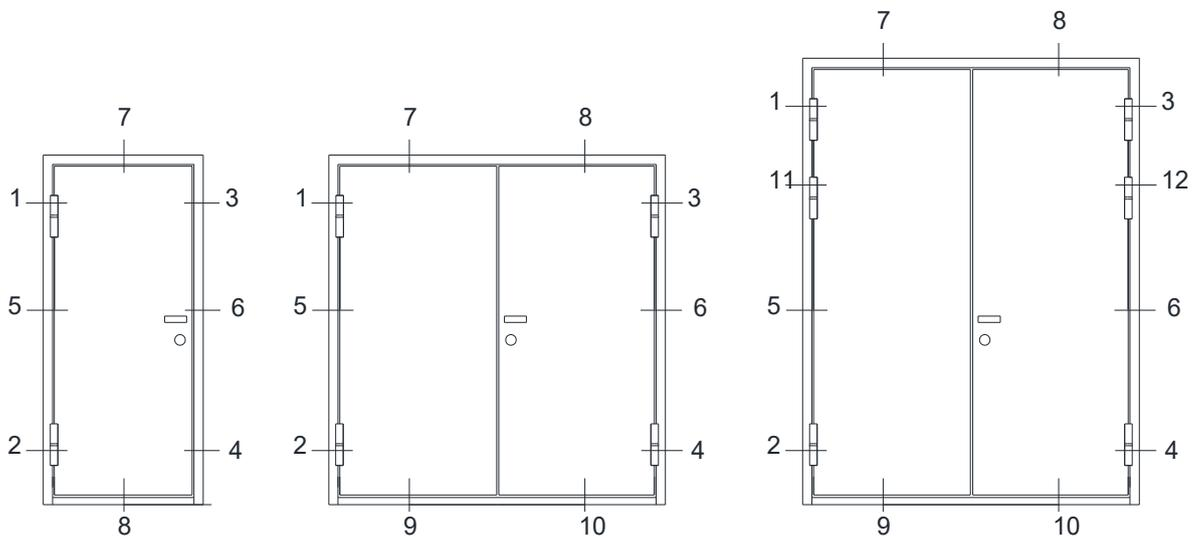

Figure 4. Frame fixing points
- 2.6.1 Level the hinge-side of the frame and initially fasten the frame through fixing points 1, 2, and 3 (Figure 4).
- 2.7.5 Fasten with a screw through fixing point 4 (Figure 4).